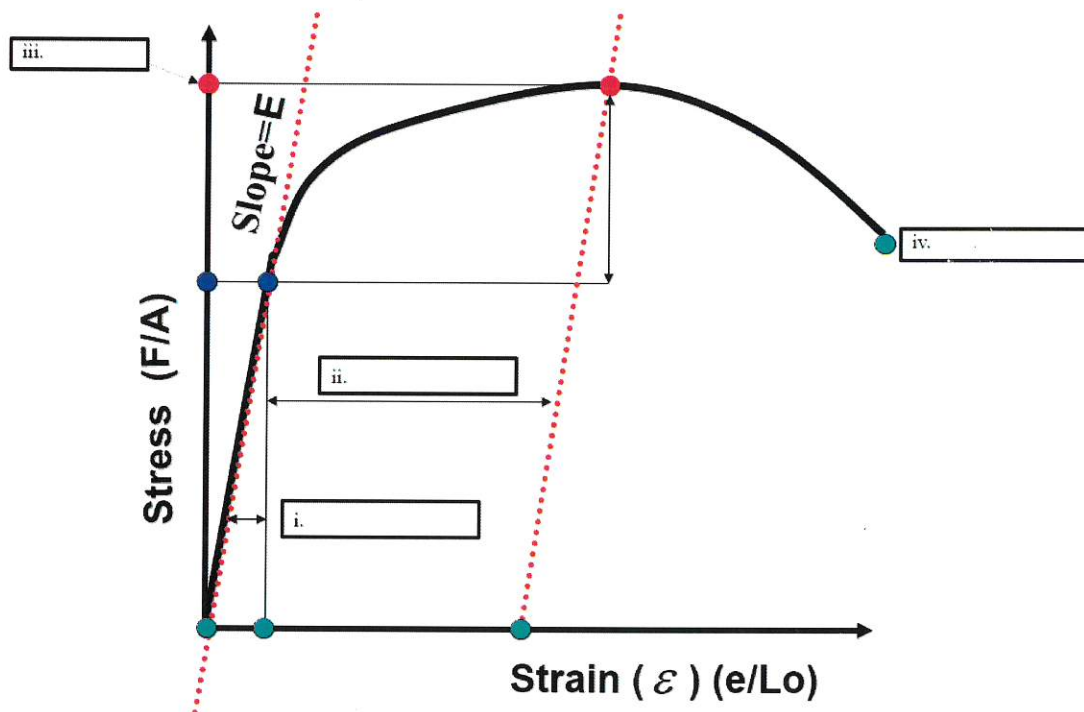

Figure 2(b) / Rajah 2(b)
- (b) Figure 2 (b) shows a stress-strain diagram. Fill in the blank with suitable regions or point.